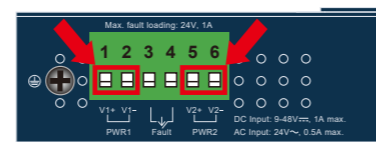

Figure 3-1: IMG-2100T/IMG-2105AT Upper Panel
- Insert positive/negative DC power wires into **Contacts 1 and 2** for **Power 1**, or **Contacts 5 and 6** for **Power 2**. Figures 3-1 to 3-3 show PWR1 and PWR2 of the Industrial Modbus Gateway.